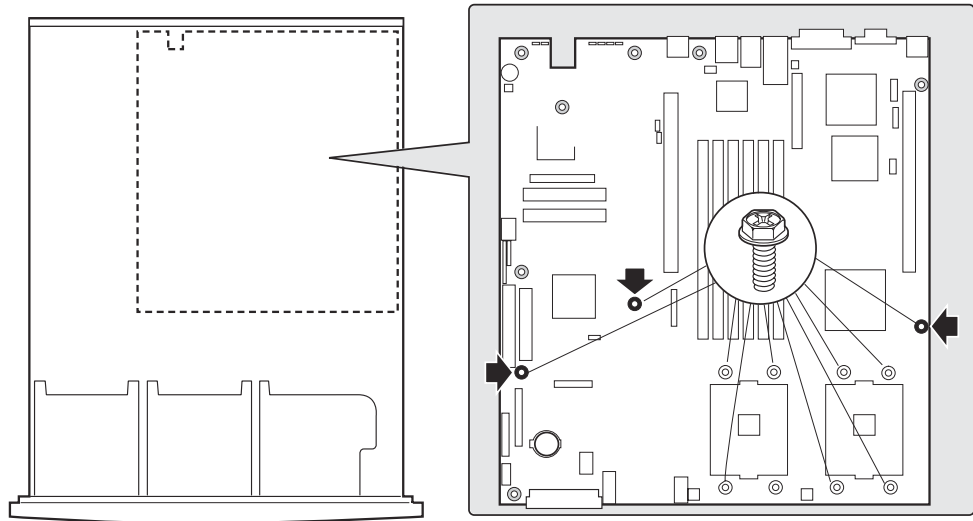

FIGURE 5-38 Location of the Mounting Screws
16. Remove the eight screws that secure the processor retention mechanisms and the three mounting screws that secure the server board to the chassis (see Figure 5-38).